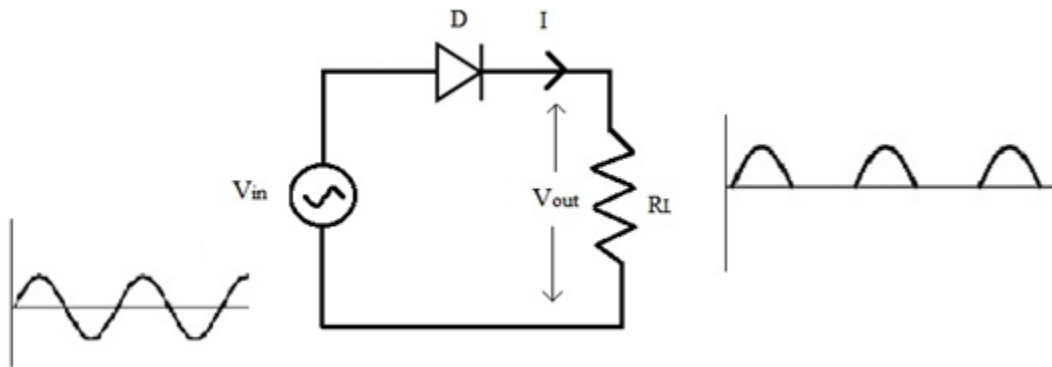

Fig. 4.8. Basic rectifier circuit
The A.C input voltage ( $V_{in}$ ), PN Junction diode (D) and load ( $R_L$ ) are connected in series, as shown in Fig. 4.8. The output voltage ( $V_{out}$ ) is available across the load  $R_L$ .